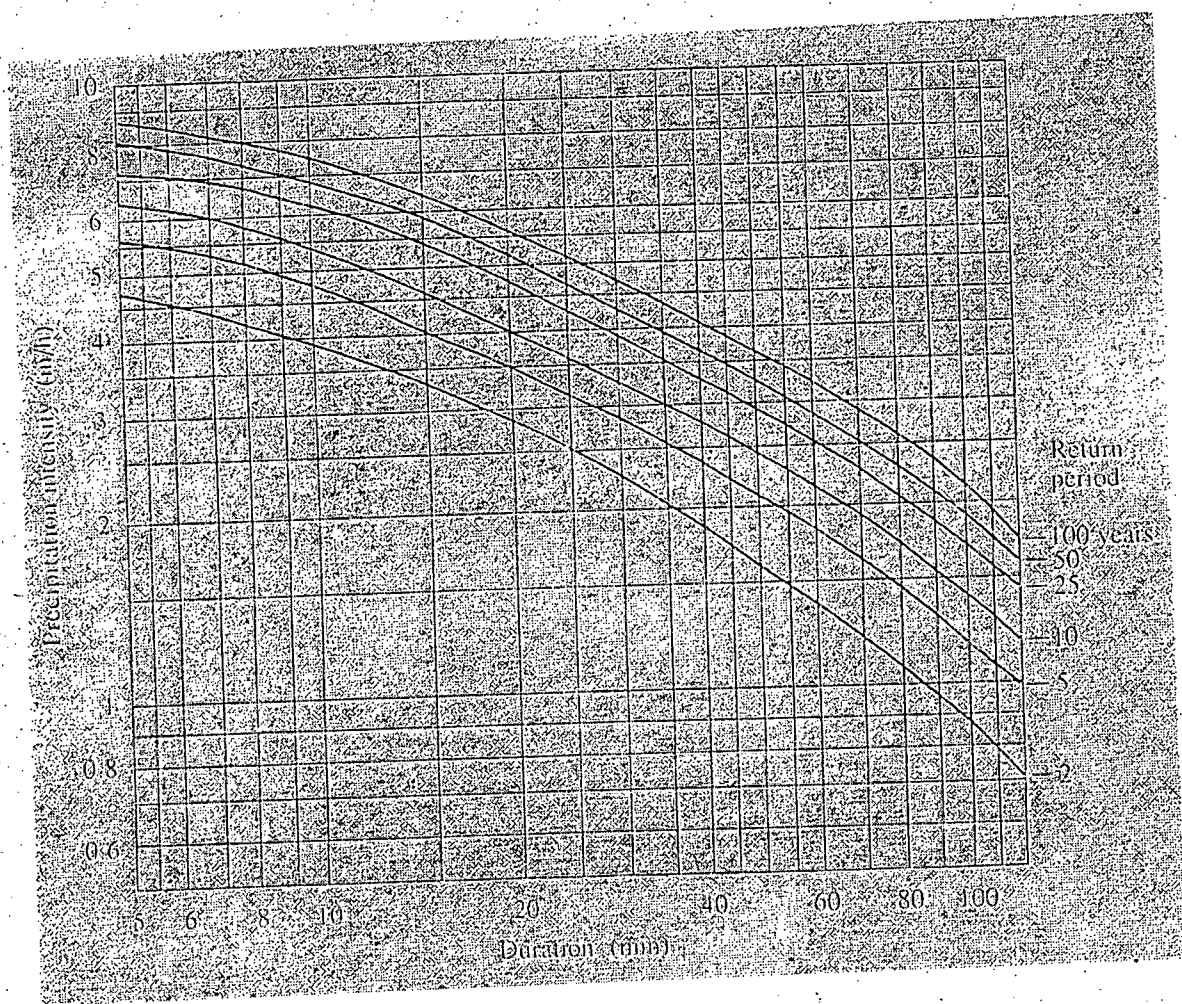

Fig. 1: Intensity-Duration-Frequency (IDF) curves for Q. No. 2(a)
- (b) At a climatic station, air pressure 101.3 kPa, air temperature = 20°C and relative humidity = 60%. Calculate the corresponding vapor pressure, specific humidity, air density and dew-point temperature. (15)
- (c) "Isohyetal method is more flexible than Thiessen polygon method" — explain. (5)
2. (a) Consider a catchment with longitudinal slope = 0.005, area = 2 km2 and runoff coefficient = 0.1. The peak discharge is computed to be 4.2 m3/s. Compute the corresponding intensity of rainfall, time of concentration and maximum length of travel of water for a return period of 100 years. Use Rational Method, IDF curves (Fig. 1) and Kirpich formula for your estimation. (15)
- (b) For Horton's infiltration capacity equation suppose  $f_{co} = 5$  cm/hr,  $f_{cf} = 1$  cm/hr and  $K_h = 2$  hr-1. Determine the infiltration rates ( $f_{ct}$ ) and cumulative infiltrations ( $F_{ct}$ ) after 0, 0.5, 1.0, 1.5 and 2 hr. The infiltration rate is the time derivative of the cumulative infiltration, i.e.  $f_{ct} = \frac{dF_{ct}}{dt}$ . The notations have their usual meaning. (15)
- (c) Define the components of 'Initial Loss' in hydrologic cycle. (5)
3. (a) The ordinates of a storm hydrograph of a river draining a catchment area of 165 km2 due to a 6-h rainfall are given below. Derive the ordinates of a 6-h unit hydrograph. (15)